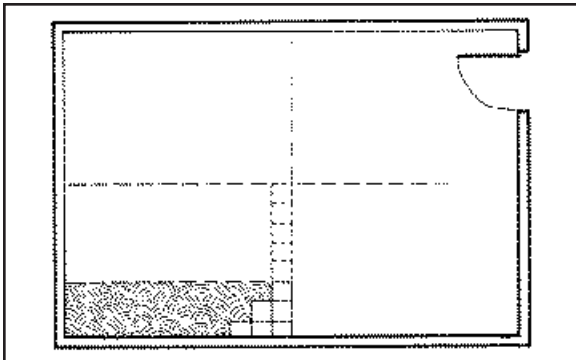

Fig. 6.
2. An alternate method to starting at the center of the room involves shifting the center lines out toward the walls furthest from the doorway (Figure 6). Position the new lines 2' to 3' from the wall depending on your reach and the tile layout. This method will help to reduce tile shifting and eliminate the need to work on freshly laid tile.